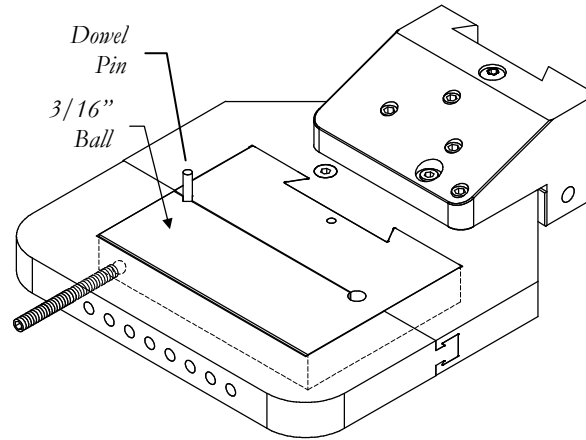

Figure 17
STEP 29. Place the 3/16 inch diameter ball bearing between the clamp screw and the insert as shown is Fig. 17.